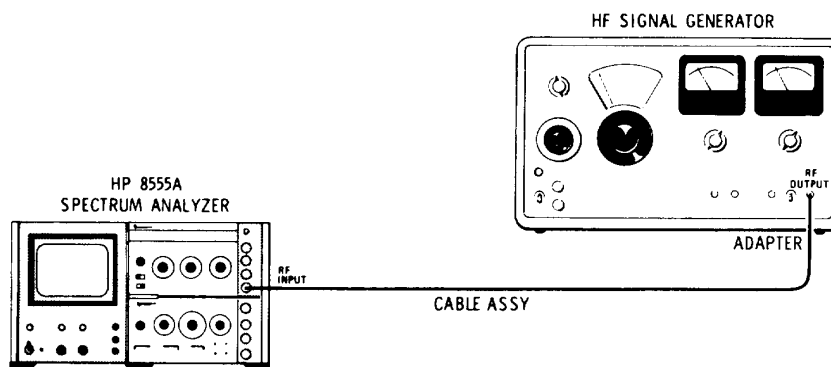

Figure 4-8. Noise Sideband Test Setup
1. Connect the signal generator RF OUTPUT to the analyzer INPUT. (See Figure 4-8). Set the generator output frequency to 30 MHz at -20 dBm.